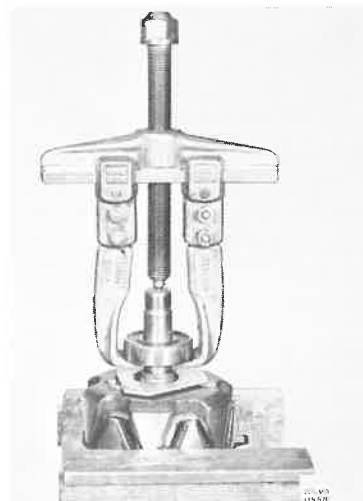

Fig. 32-19. Removing bearing
2. Pull the bearing off with a claw puller, see Fig. 32-19.